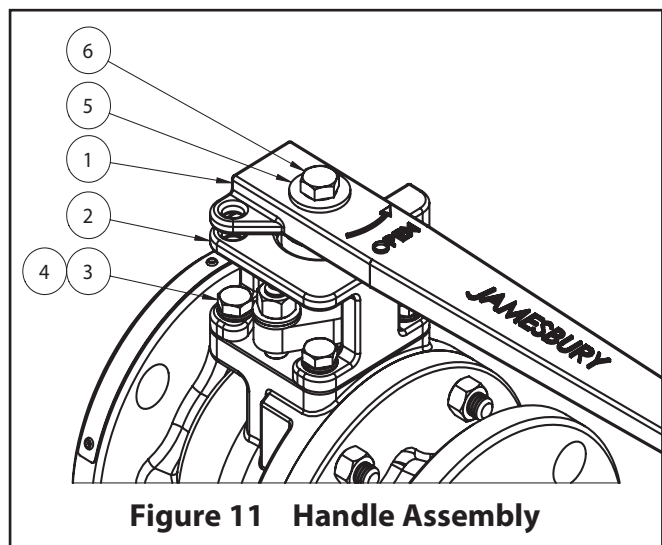

Figure 11 Handle Assembly
- Lower the handle bracket (2) straight down in line with the valve stem until it is flat on the valve bonnet, and all four mounting holes align with tapped holes on the valve (see **Figure 11**).
- NOTE:** Positive stop feature on handle bracket (2) should be forward, towards the body cap.
- Insert the four bracket screws (3) and lock washers (4) into the mounting holes and thread into the valve until finger tight only.
- Aligning the slot in the handle with drive on the stem, lower handle (1) straight down in line with the valve stem until it is completely engaged. If the handle (1) interferes with the handle bracket (2) rotate the handle bracket slightly to remove interference. DO NOT rotate stem!